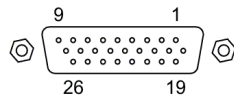

Figure 6-4: ANALOG Connector
4. If an emission indicator lamp other than the front panel LED on the *Model L20* is required, use the ANALOG port (Figure 6-4) on the rear panel of the power supply to turn on and off a lamp.